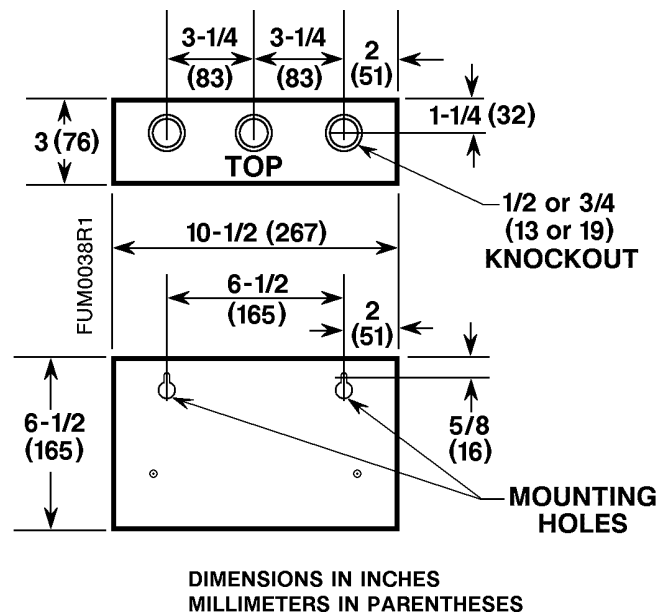

Figure 1. Enclosure Dimensions and Knockouts.
2. Remove the appropriate conduit knockouts (Figure 1).
4. Align the top edge of the enclosure on the level line made in Step 3. Mark the position of the two mounting holes on the rear panel of the enclosure. See Figure 1.